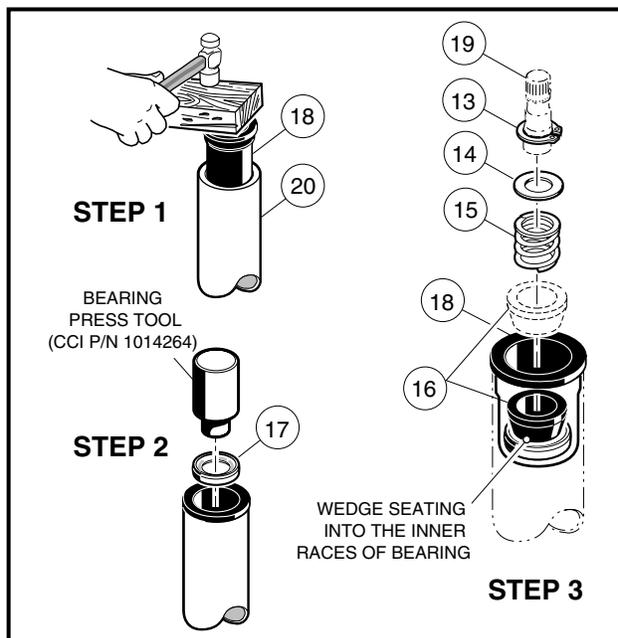

Figure 7-5 Steering Shaft – Bottom End
1. Insert bearing seat (18) into both ends of steering tube (20). Place a block of wood on bearing seat and tap lightly on block until bearing seat (18) is fully seated in steering tube (20) (**Figure 7-5, Page 7-5**).
2. Press the bearing (17) all the way into the bearing seat (18) using a steering column bearing press tool (CCI P/N 1014264) or a metal tube approximately six inches (15.2 cm) long with a maximum outer diameter of 1-3/16 inches (3.3 cm) and a minimum inside diameter of 7/8 inch (2.2 cm). Be sure the bearing is installed in the bearing seat as shown (**Figure 7-5, Page 7-5**) so the wedge (16) will ride against the inner race of the bearing.
3. Install the wedge (16), spring (15), washer (14), and snap ring (13) onto the bottom end of the steering shaft (19) **(Figure 7-5, Page 7-5)**.